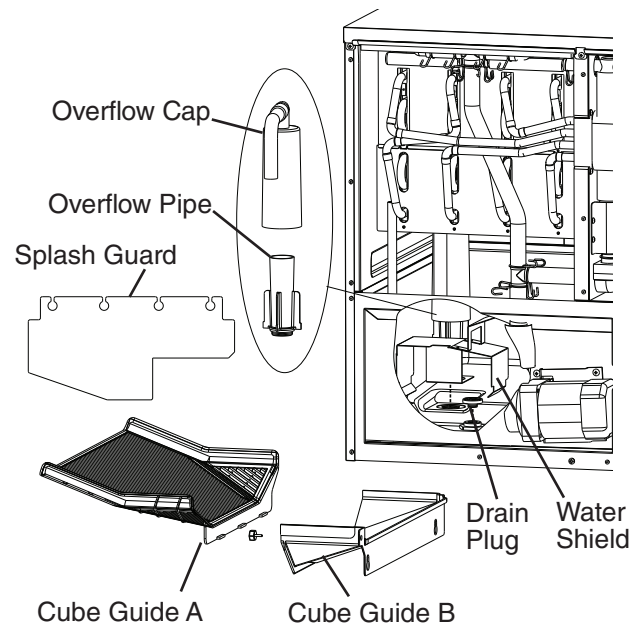

Fig. 7
- 3) Remove the insulation panel. Remove the splash guard, cube guide B, then remove cube guide A. See Fig. 7. Remove the overflow cap, overflow pipe, and water shield.